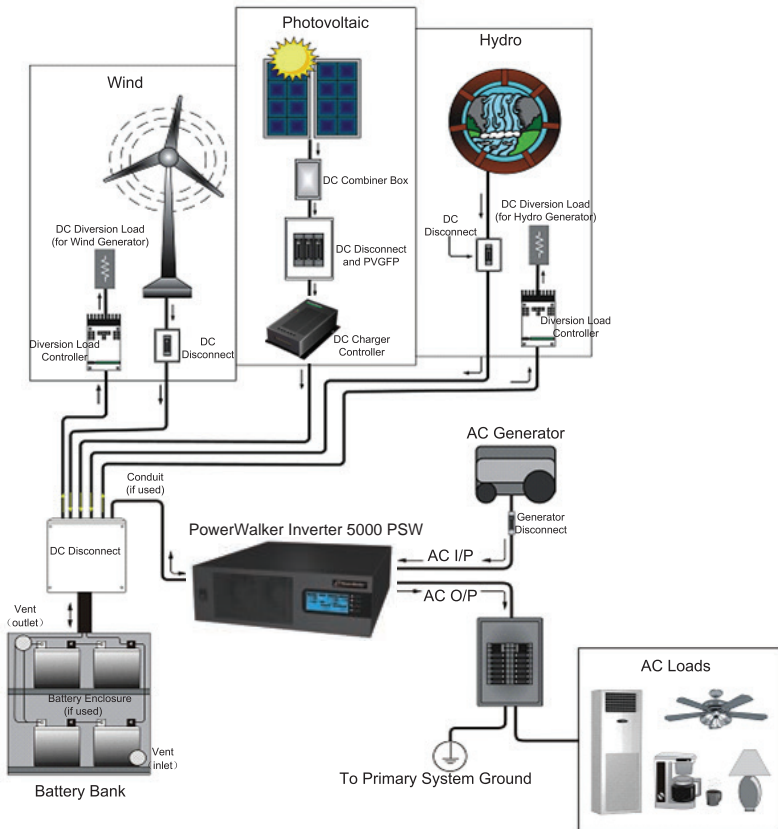

Figure 1-2 Renewable Energy Source
- Renewable Energy Source And a Generator, see figure 1-2